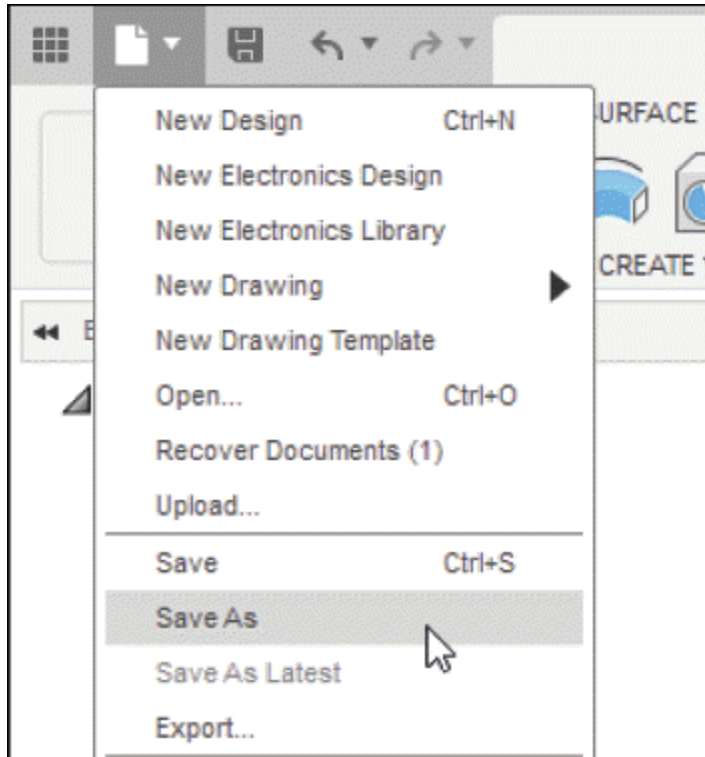
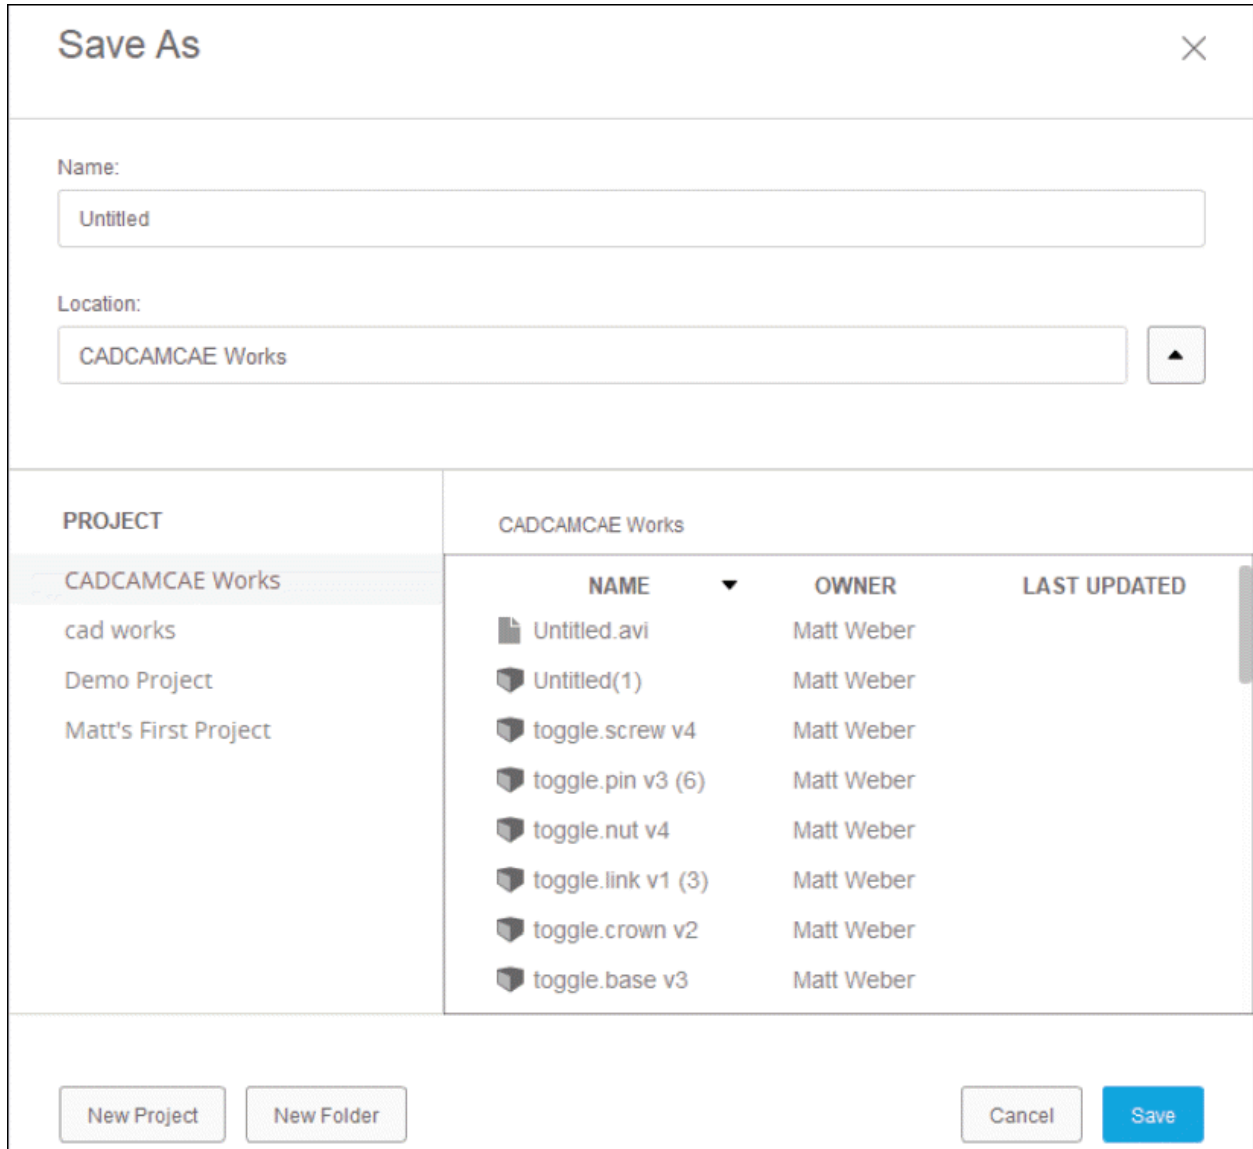

Figure-28. Save As tool
Figure-29. Save As dialog box
- Click on **Save As** tool from **File** menu; refer to Figure-28. The **Save As** dialog box will be displayed as shown in Figure-29.